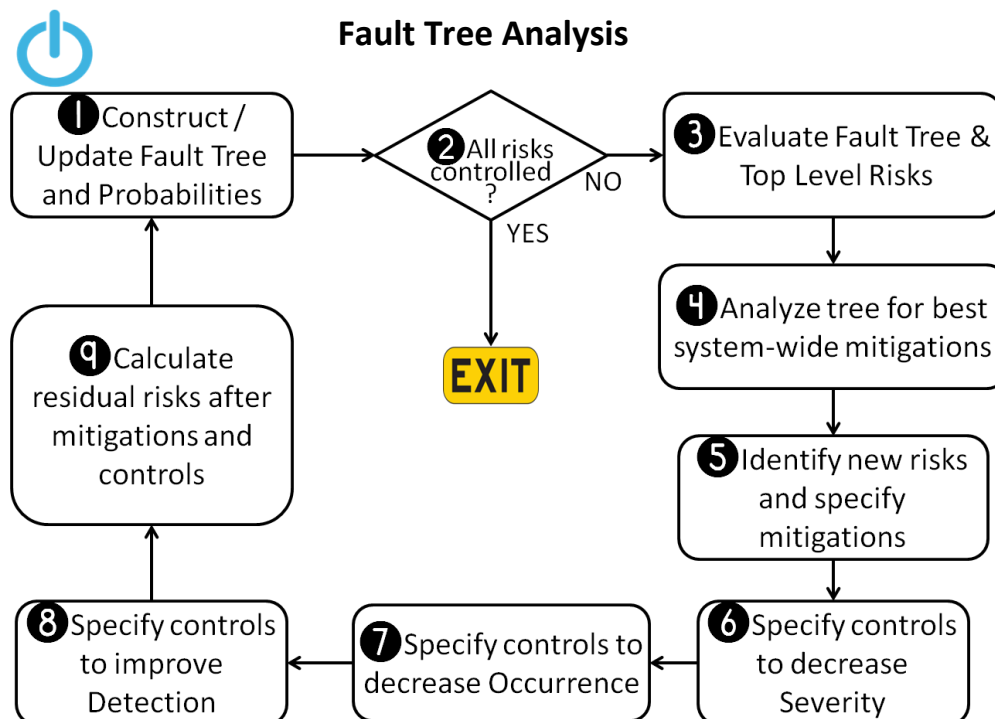

Figure 5 - Fault Tree Analysis with Detection
Fault Tree Analysis starts with the tree ❶. The first iteration will begin construction of the tree. Subsequent iterations will update and manage it. ❷ The goal here (Figure 5) is to evaluate the probabilities of all risk(s) and determine if they have all been controlled or their effects limited given the tree risk structure. If so, we EXIT. If not, ❸ top level faults are evaluated. Following that, ❹ system-wide structural mitigations, restructuring, reformulations are then investigated. FTA can see and make changes that FMEA cannot because it can see new perspectives, view fresh angles, and exercise new freedoms in its room to maneuver and innovate that FMEA does not have. From there, ❺ identify new risks and specify more mitigations for all the changes.